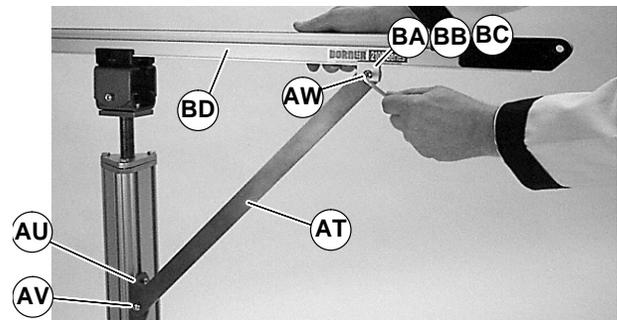
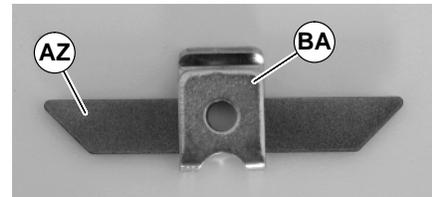

Figure 32
Figure 33
4. Attach brace (AT of Figure 32) to brace bracket (AU) with M8 screw (AV).
5C. For 6100 conveyors: Insert belt guard (AZ of Figure 33) into 6100 clip (BA). Attach brace (AT of Figure 32) to conveyor rail (BD) with clip (BA) and M8 screw (AW).
6. Tighten M8 screws (AV & AW of Figure 32) to 80 in-lb (9 Nm).